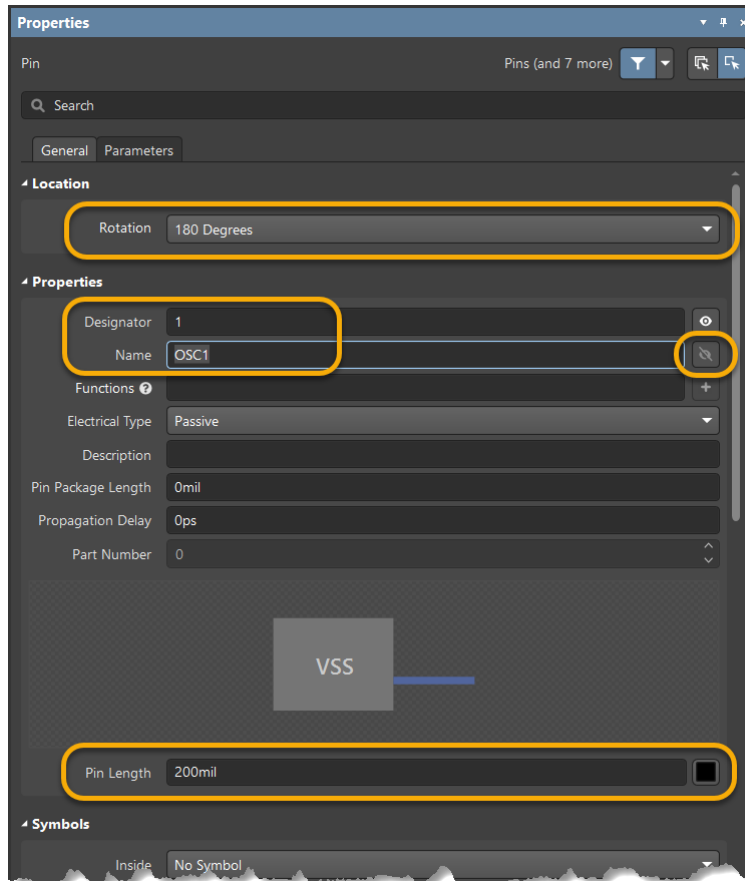

Figure 13. Pin Properties
15. Configure the settings to match those shown in Figure 13. Hit the **Enter** key or select the **Pause** icon (⏸) after you've updated all the fields, continue the pin placement.